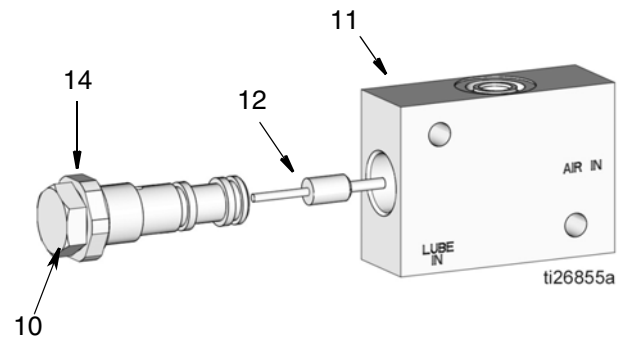

FIG. 8
5. Remove the spray valve piston assembly (10, 12, 14) (FIG. 8). Separate all parts.